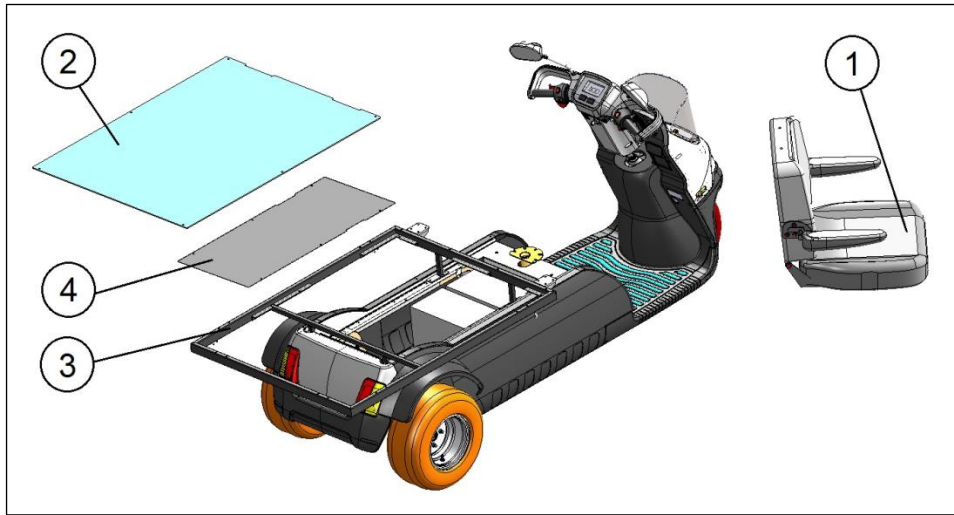
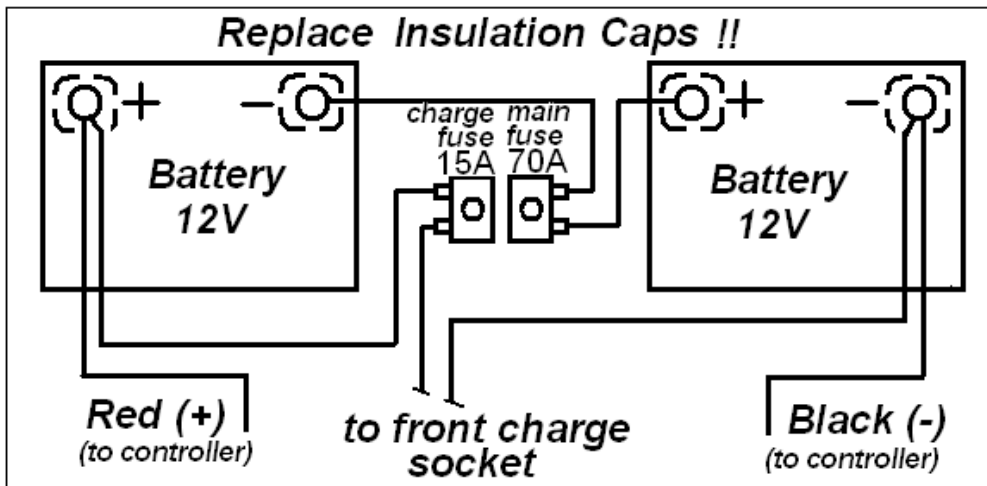

Figure 11
Figure 12
2. The numbers in parentheses refer to the parts illustrated in figure 11.
Replace batteries	<p>Note! Batteries must be replaced by trained professionals only. Warning! Batteries contain high energy and can spark, resulting in a possible fire hazard. Warning! Working with batteries can cause damage and Injury if not done properly. In this procedure, refer to Figures 11 & 12.</p> <ol style="list-style-type: none"> 1. To replace the batteries, the platform needs to be removed. 2. Remove the seat first by turning it to 45 deg. And lifting it. The seat weight more than 20 kg (44 lbs). Recommended to lift it by 2 persons. 3. Remove the aluminium plate (2) of the frame (3) by releasing the securing screws and special Velcro tape. In the plate there are special opening to allow lifting it easily. 4. Then remove the batteries cover secured with 6 knurled screws. 5. Remove the terminal insulating cap from one battery terminal. 6. Using a 10/13 mm wrench key, unscrew the wiring from the terminal. Take care not to let the key touch any other terminal or metal part, as this could cause damage or injury. 7. Repeat steps 1 and 2 for all the other terminals. 8. Batteries weight are 35 kg each (77 lbs). Remove the old batteries and install the new ones. Use a proper help device for the lifting or another person help. 9. Connect the wires of the new batteries as shown in Figure 12 (also shown on the label located near the batteries). 10. Screw down the terminals securely, and replace the insulating caps. 11. Reinstall all covers and secure screws back in opposite order.